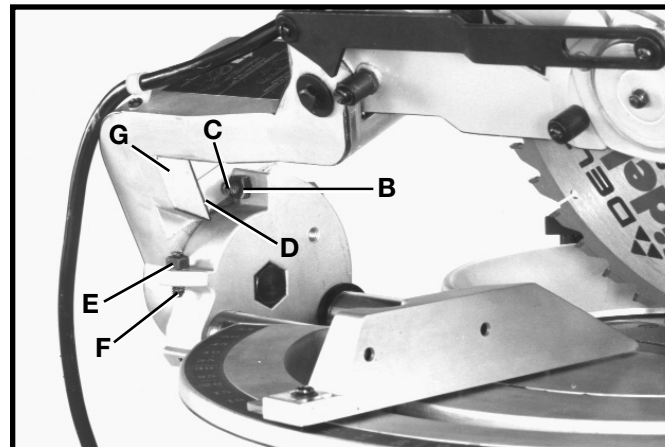

Fig. 45
4. If an adjustment is necessary, loosen bevel lock handle. Then loosen locknut (B) Fig. 45, and turn adjusting screw (C) until head of screw (C) contacts inside of casting (D) when blade is 90 degrees to the table. Then tighten locknut (B).
8. If an adjustment is necessary, loosen bevel lock handle. Then loosen locknut (E) Fig. 45, and turn adjusting screw (F) until head of screw (F) contacts surface (G) when blade is 45 degrees to the table. Then tighten locknut (E).